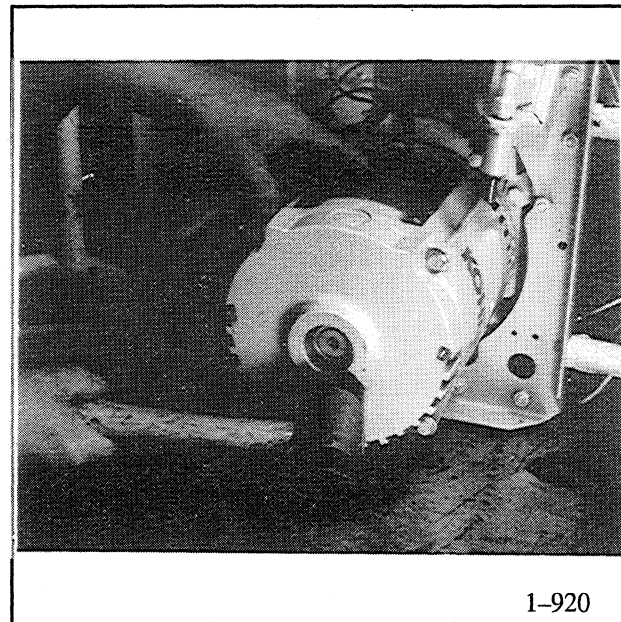

Figure 5-19. Tapping End Bracket
- b. Lightly strike the end bracket with a rubber mallet, see Figure 5-19. Recheck drag using torque wrench. If reading is 40 in. lbs. (4.5 Nm) or less, crankshaft end play is correct – go to Step 16.